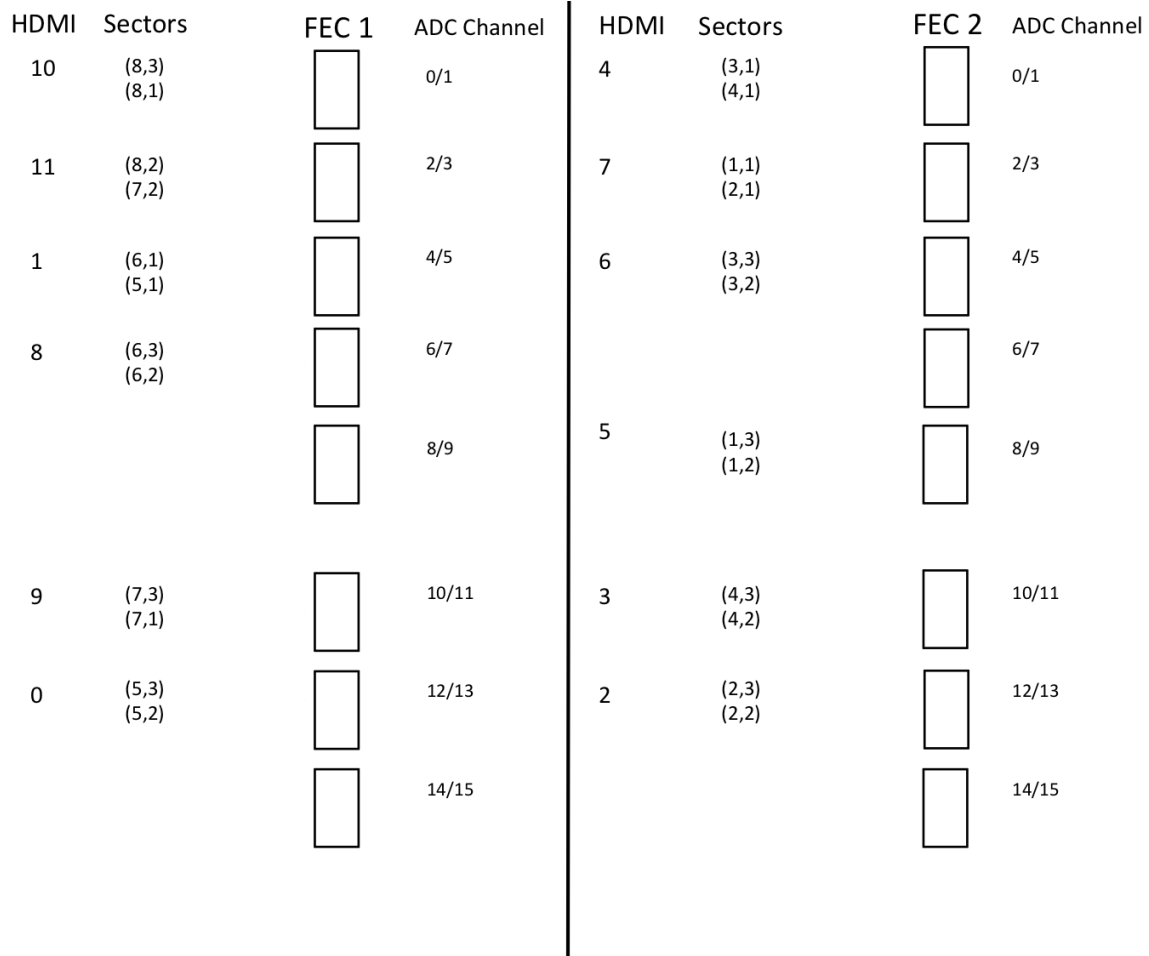

Figure 42: The proper FEC cabling.
2. Ensure that all of the HDMI cables are fully connected on the ADCs and on the APVs. See figure 42 for the proper configuration of HDMI cables on the ADCs.